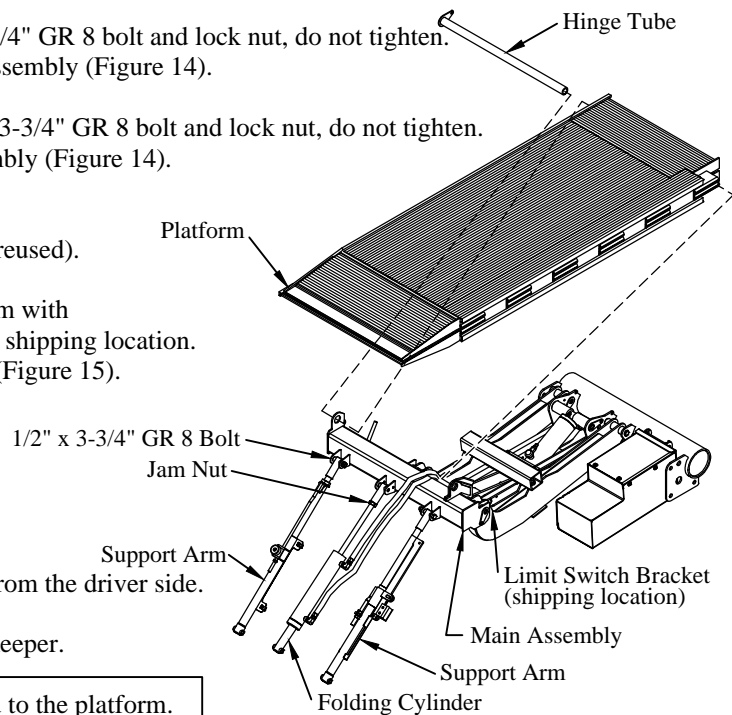

Figure 14: Platform parts location.
The threaded end of the support arm goes toward the main assembly (Figure 14).
The threaded end of the cylinder goes toward the main assembly (Figure 14).
- 4. Install** the limit switch bracket on the passenger side support arm with two (2) #12 self-threading screws. See Figure 14 for bracket shipping location.
- Adjust** the passenger side support arm so that the platform is 1-1/2" from level over a 3-foot length (Figure 14). Adjustment similar to folding cylinder.